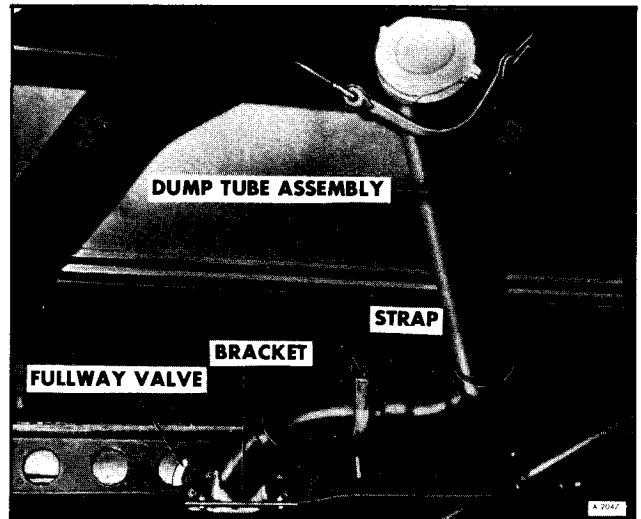

Figure 4-Dump Tube and Valve Assembly
2. On vehicles equipped with a rigid dump tube assembly remove the four (4) screws securing valve to the tank. Remove cotter pin from control rod, then remove the bracket and strap as shown in Figure 4. Remove the fullway valve and tube assembly.
3. On vehicles equipped with a flexible hose at the holding tank, remove the hose from the valve by loosening the hose clamp and sliding the hose off the valve. Remove the cotter pin from the control rod. Remove the four (4) screws securing the valve to the tank. Remove the valve.
a. Position valve at holding tank and assemble enough to loosely install the strap (figure 4). Tighten fullway valve to tank screws.
a. Position valve on holding tank and secure with four (4) screws.